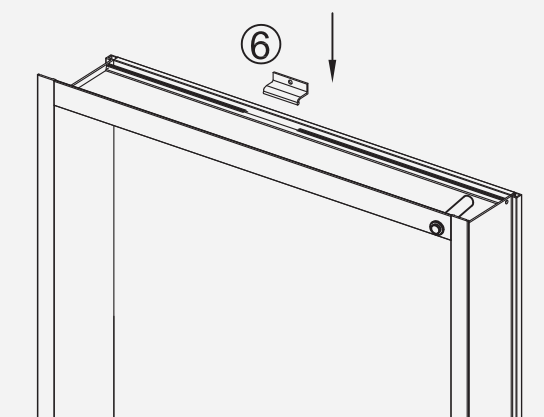

Fig 9
4. Insert surface mount z-clips 6 as shown (Fig 9 & 10).